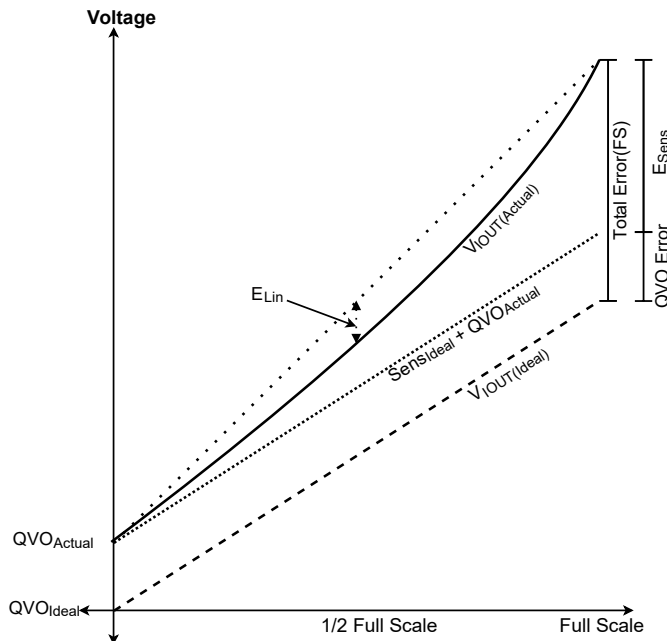

Figure 10: Accuracy Error
As the amount of current applied to the part changes, the sensitivity of the device can also change slightly. This is referred to as Linearity Error or E_{LIN} (see Figure 10). Consider two currents, I_1 (1/2 FS) and I_2 (FS). Ideally, the sensitivity of the device is the same for both currents. Linearity Error is calculated as the percent change in sensitivity from one current to another. Error is calculated separately for positive ($E_{LIN(+)}$) and negative ($E_{LIN(-)}$) currents, and the percent errors are defined as:
Total Output Error incorporates all sources of error and is a function of current. At relatively high currents Sensitivity Error will be the largest contributor to Total Output Error. At relatively low inputs, Offset Voltage, V_{OE} , will be the largest contributor to Total Output Error. At $I = 0$ A, Total Output Error approaches infinity due to the offset. An example of total error at FS can be seen in Figure 10.